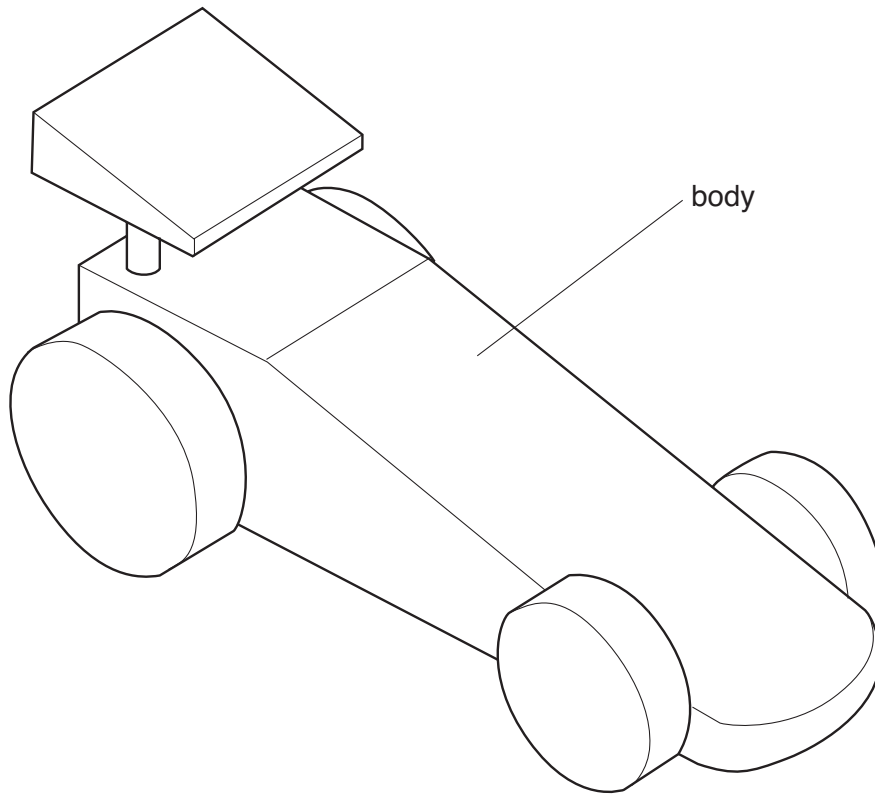

Fig. 1
- 1 Fig. 1 shows a child's toy made from softwood. The toy will be made in a school workshop.